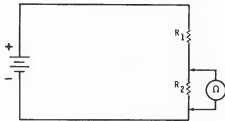

Figure 1-98
44. What is wrong in the circuit of Figure 1-98 where the resistance of R_2 is being measured?